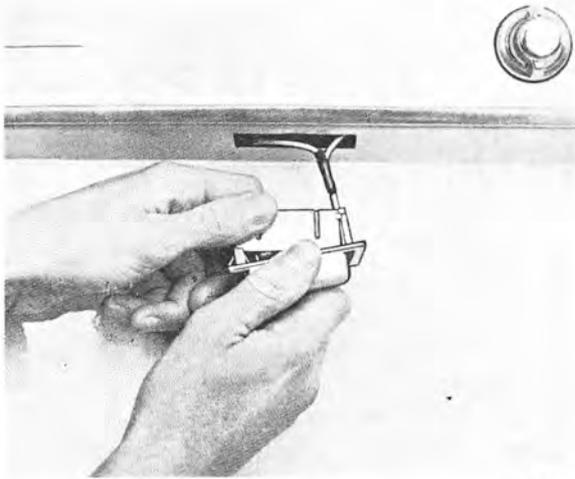

Fig. 3-94. Disassembling license plate light
3. Disassemble the plate according to Fig. 3-94.